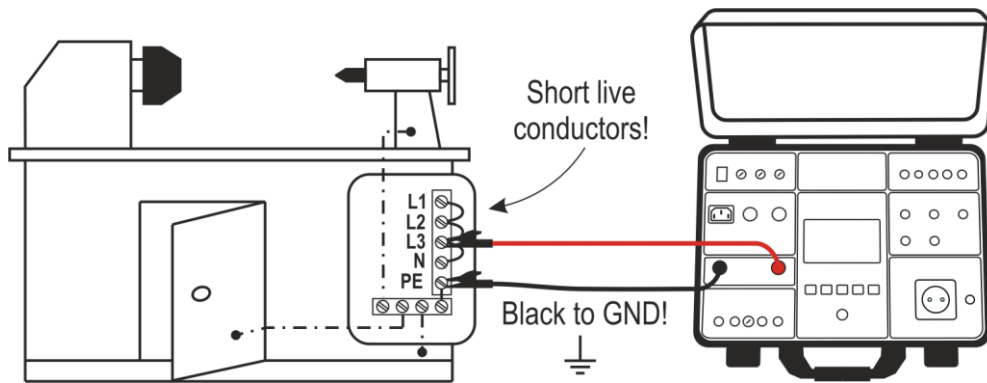

Fig. 33 : Connection of test leads in MΩ function
6. Connect the test leads according to the below Fig. 33